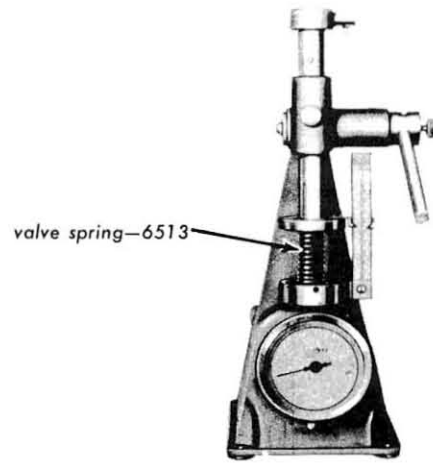

Fig. 9—Checking Valve Spring
(3) **SPRING TESTING.** Test the Valve Springs (fig. 9) for compression. Replace springs if they are not within the limits given in Table 3.